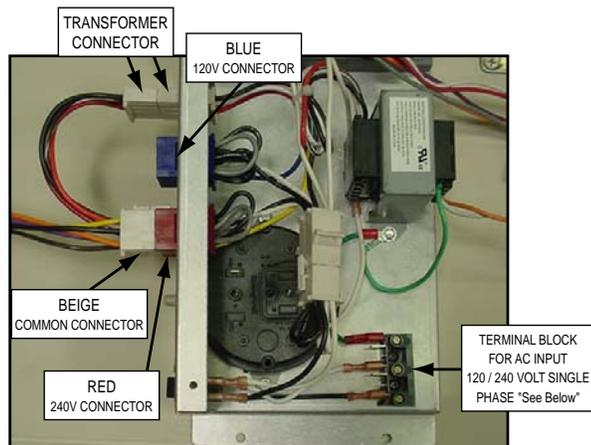

Figure 16.
- The MiniMax NT heater is prewired for 240-volt AC connection using the “RED” connector and the “BEIGE” common connector; see **Figure 16** below. For 120-volt AC supply, remove the “BEIGE” common connector and plug it into the “BLUE” common connector.
You need to open the right door then remove the control panel cover for servicing the Line Terminal Block as shown in Figures 16 & 17, (see item 40 in the exploded view on page 33).